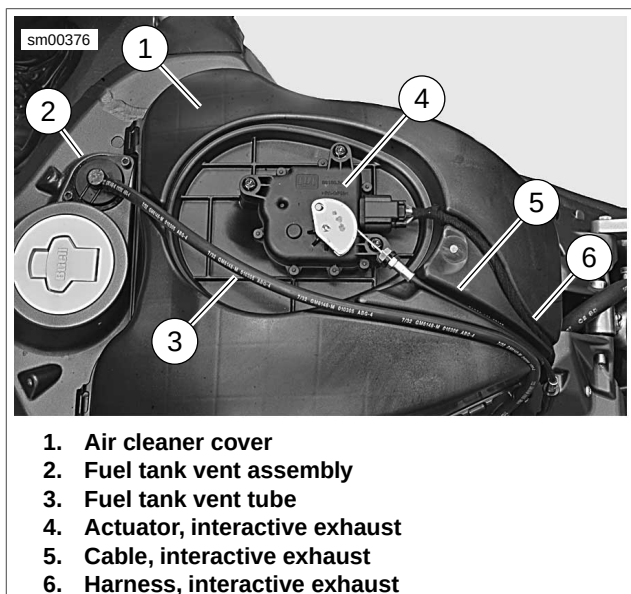

Figure 7-57. Air Cleaner Cover (XB12 Models)
6. See Figure 7-57. Disconnect harness connector [161B] from actuator (4).
7. Add free play to interactive exhaust cable (5), loosen jam nut and remove cable from bracket on actuator.